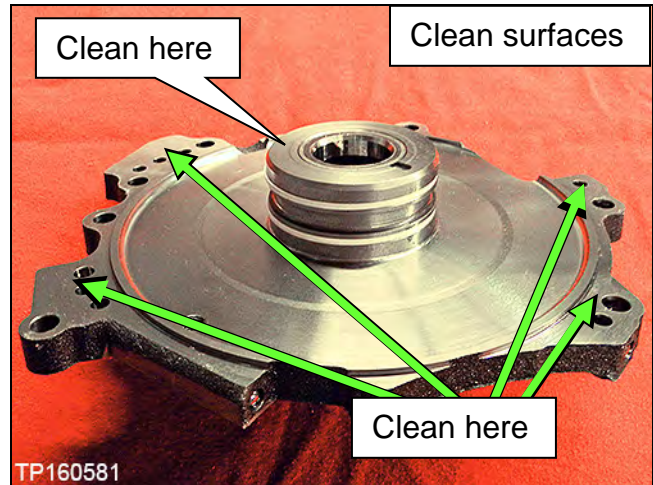

Figure 7G
- Clean the dummy cover surfaces that contact the CVT case and thrust bearing (Figure 7G).